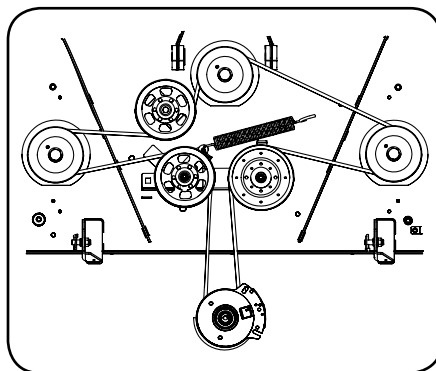

Figure 4-19
5. Install the new belt around the spindle pulleys as shown and reinstall the belt covers. See Figure 4-19.
7. Route the belt as shown in Figure 4-19 and then reinstall the deck. Refer to "Deck Installation" on page 23.